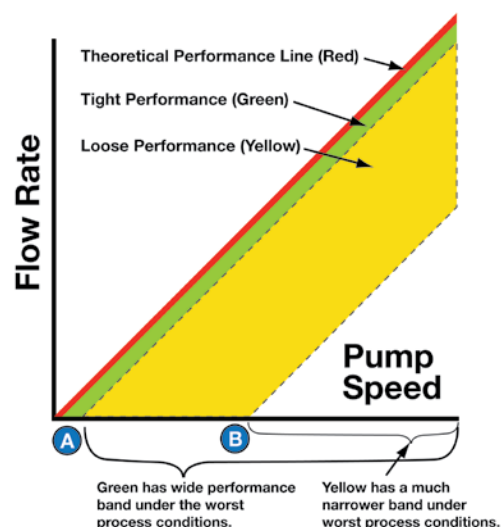

Figure 8: Comparison of wide and narrow performance bands
In Figure 8, notice the point at which the green or yellow pump curves are at greatest slip point and cross the zero/no flow (x axis line). These are points (A) and (B) respectively. These are points in which the green and yellow bands, representing respective pumps, begin to produce flow under the greatest slip condition possible for the process. The pump that starts to produce flow at point (A) will use the total range of pump speed more effectively (revolutions per minute) than the pump starting at point (B).